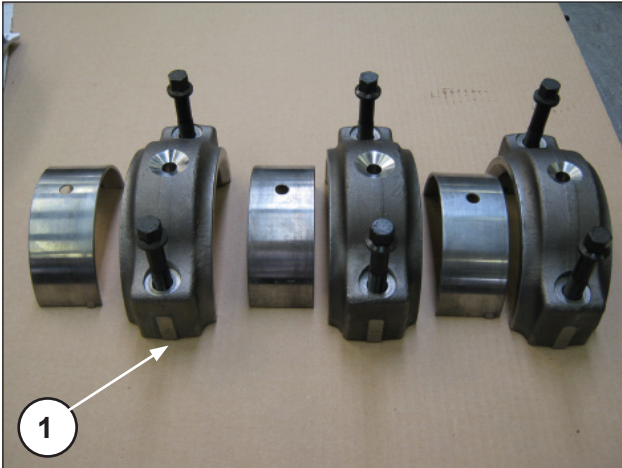
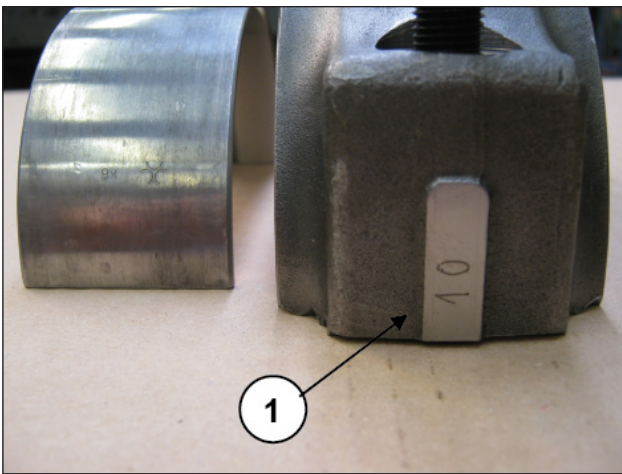

Fig. 41
Fig. 42
Couple the half-conrods to the previously disassembled caps, referring to the numbering (pos. ①, Fig. 41 and Fig. 42).